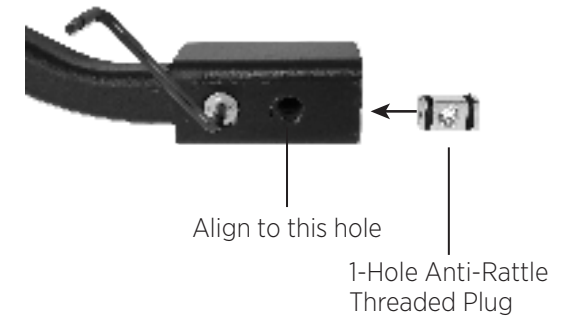

Fig. 10
2. Align and insert 1-Hole Anti-Rattle Threaded Plug to large hole at end of Hitch Tongue (similar to STEP 2) (**Fig. 10**).